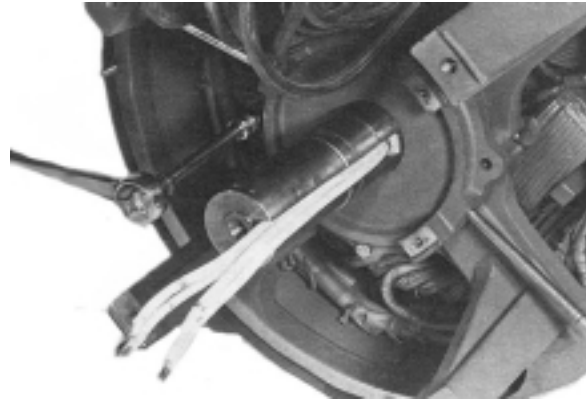
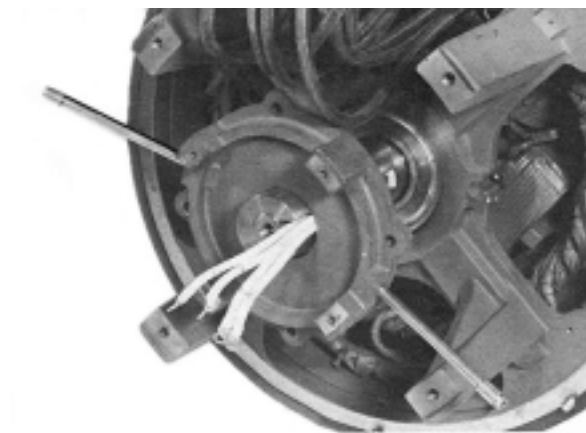

Figure 6-21
Figure 6-22
2. For single bearing generators, remove the four cap screws holding the bearing caps to the front-end bracket. (Figure 6-21.) Remove the outer cap. (Figure 6-22.)
For two-bearing generators, remove the drive coupling or sheave and key from the shaft extension. Remove the four cap screws holding the bearing lock to the drive end bracket. (Figure 6-23.) Remove the four cap screws holding the bearing caps to the front-end bracket. (Figure 6-21.) Remove the outer cap. (Figure 6-22.)